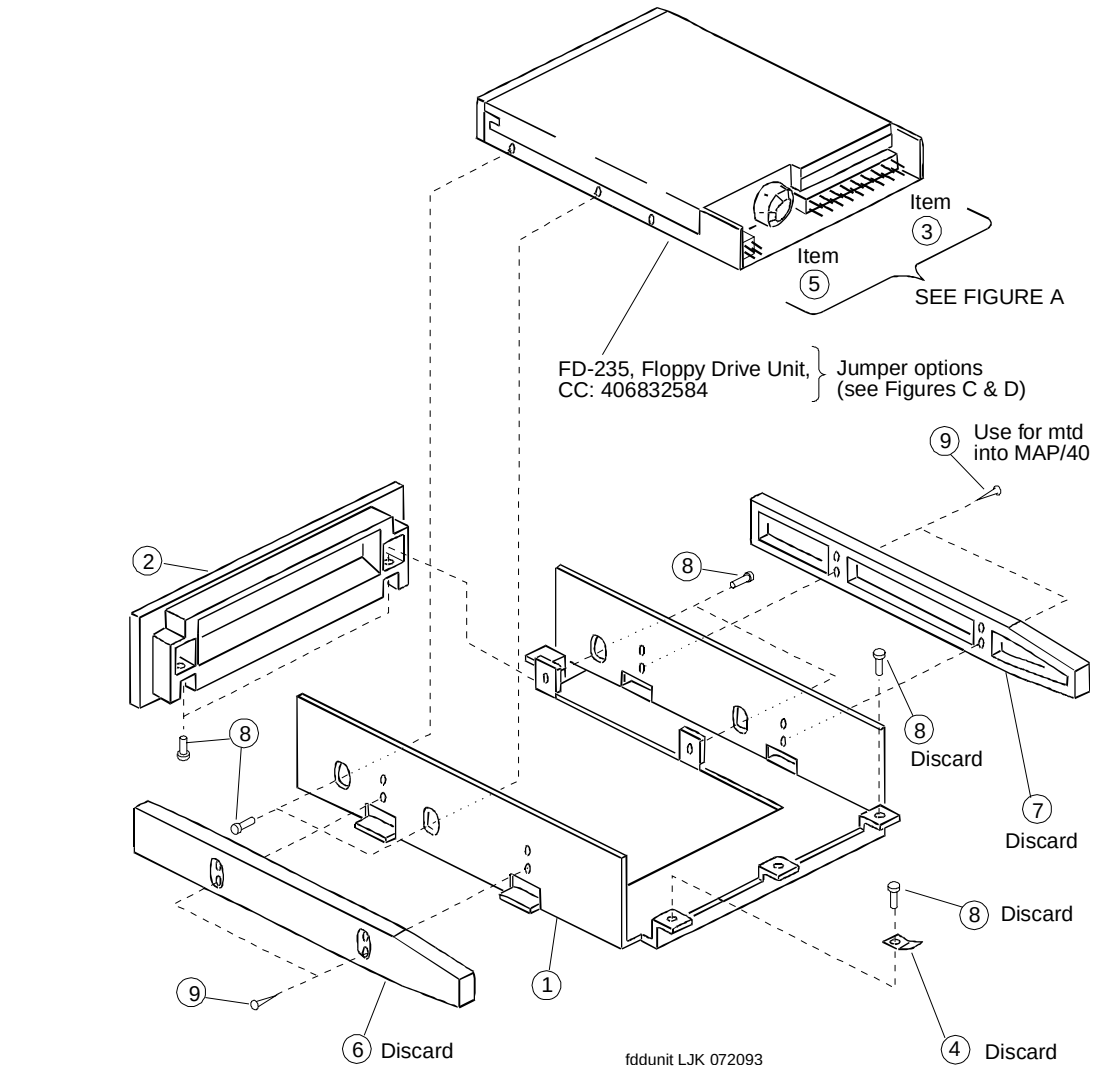

Figure 7-10. Diskette Drive Assembly
10. Remove the four 3-millimeter screws that secure the drive unit to the 5.25-inch diskette drive hardware mounting kit. These screws are shown as item 8 in Figure 7-10.
- 11. Slide the drive unit back to clear the front bezel. The bezel is shown as item 2 in Figure 7-10.